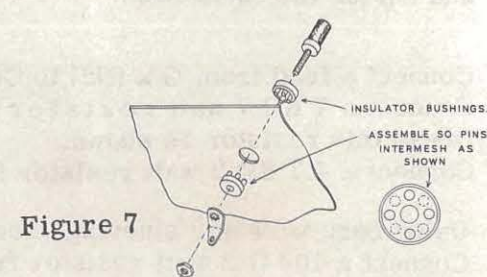

Figure 7
- (✓) Following Figure 7, install the VERT. INPUT binding post at RR, using the special low-capacity binding post insulators. These are the small round plastic parts drilled for a #6 screw. Note that four pins project from one face of the insulator, so spaced that two of the insulators can be meshed through the panel hole. Before tightening the nut, be sure the cross-drilled wire hole is horizontal. Add a red cap.